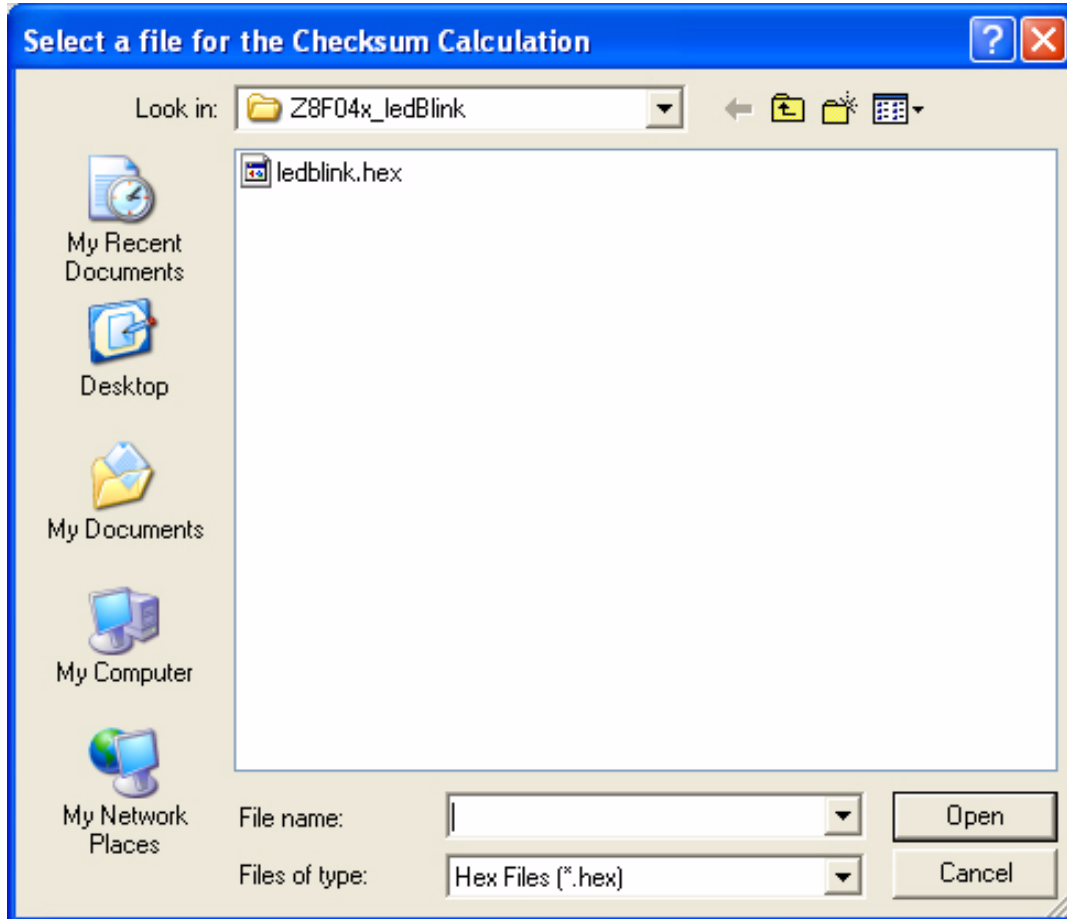

Figure 46. Select File For Checksum Calculation Window
Select a **File for Checksum Calculation** window (Figure 46) is displayed.
3. In the **Select a File for Checksum Calculation** window (Figure 46), select the hex file and click **Open**.